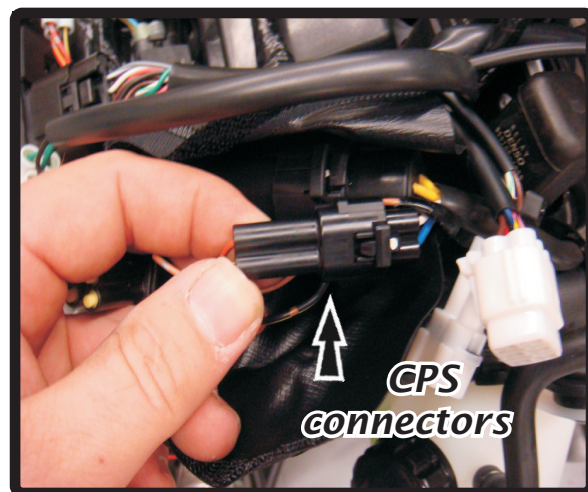

Fig. 6
- 7 Locate a black wire protector near the front of the ATV. Inside the black wire protector find the crank position sensor (CPS) connector, a black two pin connector. (Fig. 6) Disconnect the CPS sensor and connect the PIM harness.